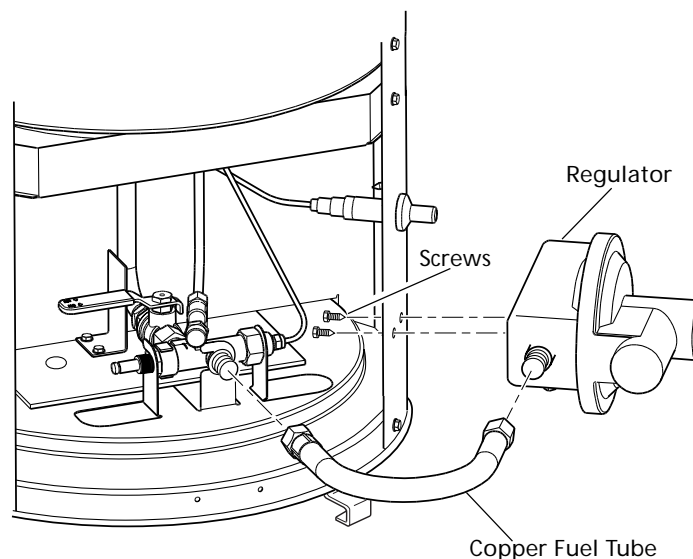

Figure 3 - Installing Regulator
2. Mount regulator to heater base below piezo ignitor button (see Figure 3). Use 1/4-20 screws from hardware bag to attach regulator to heater. Mount regulator so the outlet with male connector points toward the heater inlet.